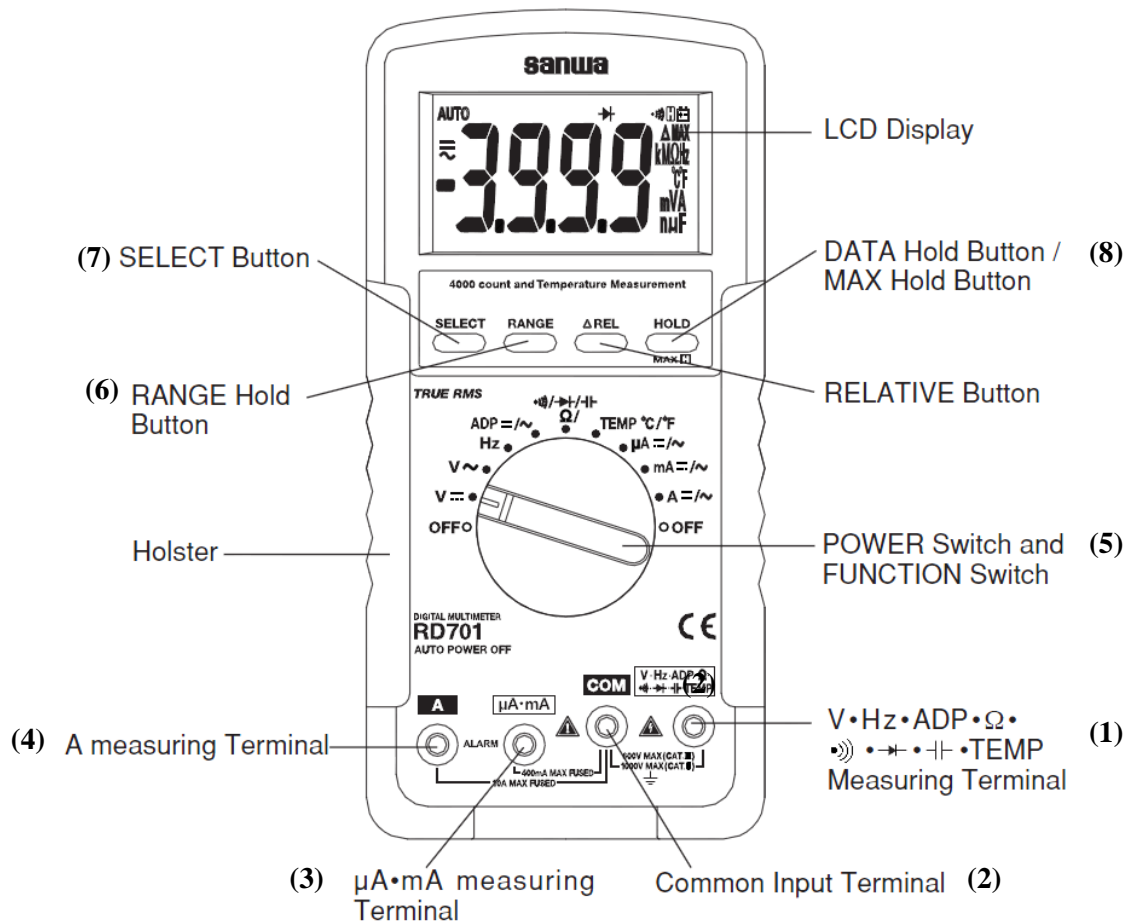
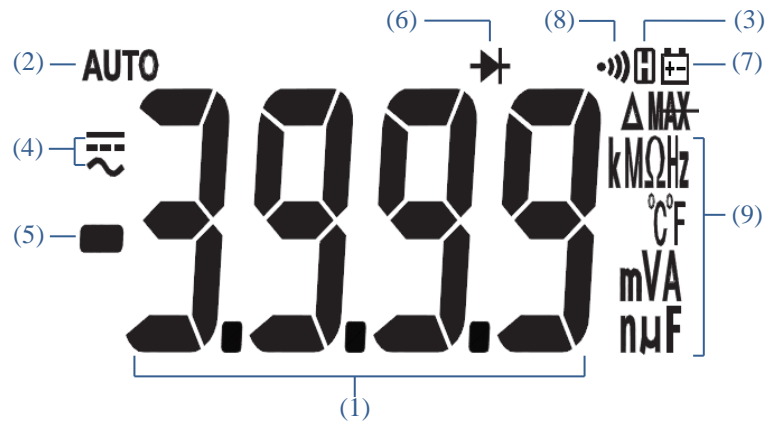
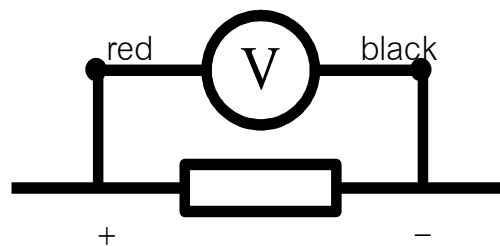
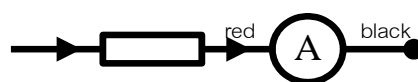

Figure 3: A digital multi-meter.
Figure 4: A multi-meter LCD display
Figure 6: Measurement of a DC voltage
Figure 8: Measurement of a DC current
Figure 3 shows the important components of a multi-meter. Their functions are summarized in Table 1. Figure 4 shows a display of a multi-meter. Table 2 summarizes descriptions of such a display.
1. As shown in Figure 3, set the FUNCTION switch (5) of the multi-meter to V dc, or mV. Press SELECT button (7) to dc.
2. As shown in Figure 3, plug the black-test lead into COM terminal (2) of the multi-meter as, and the red-test lead into the V input terminal (1).
3. By using the RANGE button (6), select the range or the auto range mode.
4. Connect the voltmeter in parallel with the element, i.e. the black-test lead is connected to the negative terminal of the element being measured, and the red-test lead is connected to the positive terminal of the element, as shown in Figure 6.
1. As shown in Figure 3, set the FUNCTION switch (5) of the multi-meter to either μA , mA or A. Press SELECT button (7) to dc.
2. Plug the black-test lead into the COM terminal (2). Plug the red-test lead into the measuring terminal (3) for μA and mA, or into the measuring terminal (4) for A.
4. Open the existing connection of the element that the current is to be measured. Insert the amp-meter in series with the element as shown in Figure 8, and then reconnect the circuit.